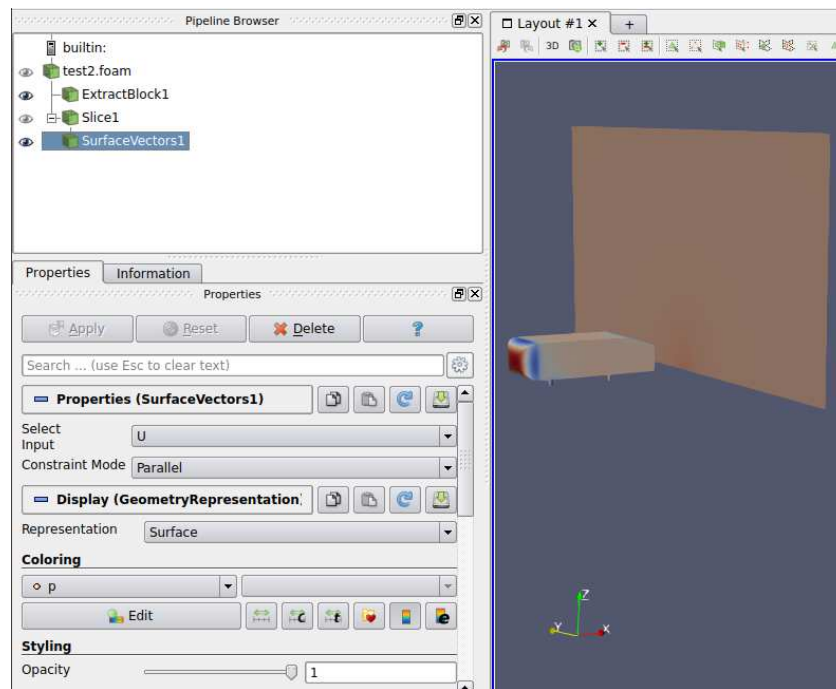

Figure 2.4: Create 'Surface Vectors'.
- 2) Click on the slice, add 'Surface Vectors Filter' from 'Filters>Alphabetical' menu, select 'U' from the 'Select Input' dropdown and click 'Apply' (figure 2.4).